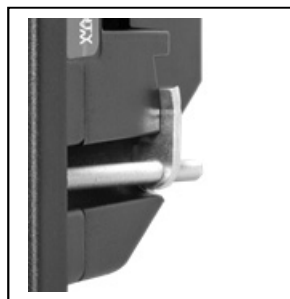

Fig. 6. Mounting screws and smart-grip clamps are pre-mounted on the XDi unit (see picture above).
7. Fixate it firmly by tightening the screws on the XDi front (see the smart-grip function on fig. 6 below).